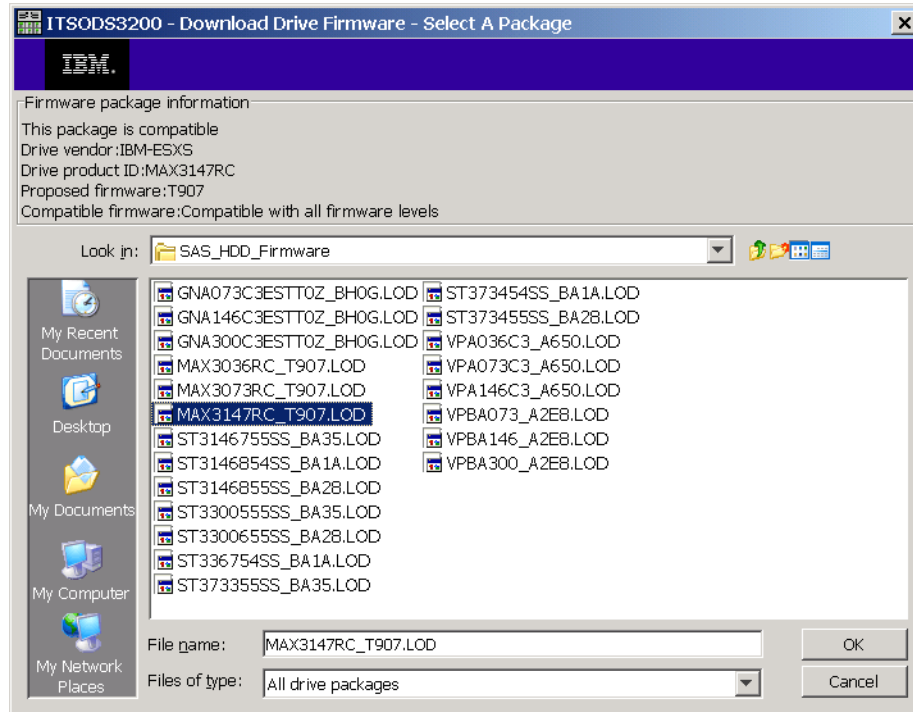

Figure 14-28 Select drive firmware package
2. Select the drive firmware package (Figure 14-28). It can be found by the “Drive product ID” of the disk drive in the information pane of the window and by the appropriate name of the package file in the downloaded bundle (normally, just one big bundle for all hard disk types and all ESMs placed on the IBM Support Web site). Verify the package compatibility with the installed disk drives in the upper pane of the window (Figure 14-28).